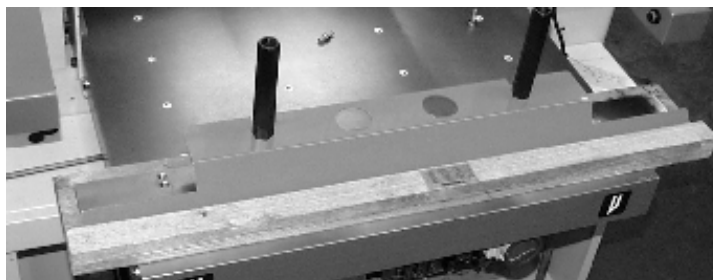
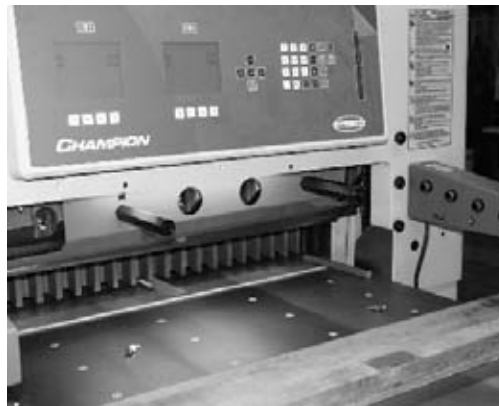

Figure 14
Figure 20
If your machine is serial no.99X524 or above you will have a shielded knife lifter instead of the loose knife lifters. The shielded knife lifter is shown in Figure 14. Before proceeding, read the special instructions for its use on page 46, Figure 20.
There are some differences to be noted for those using the shielded knife lifters as shown in Figure 14 on page 42. When installing the lifter into the knife, use the following procedure.
4. Install the knife as described above while using the holes and notches in the shield to see that you are properly aligned. The two center bolts are accessed through holes in the shield. Install the end two bolts, remove the lifter, and install the rest of the bolts. An installed lifter is shown in Figure 20 below.